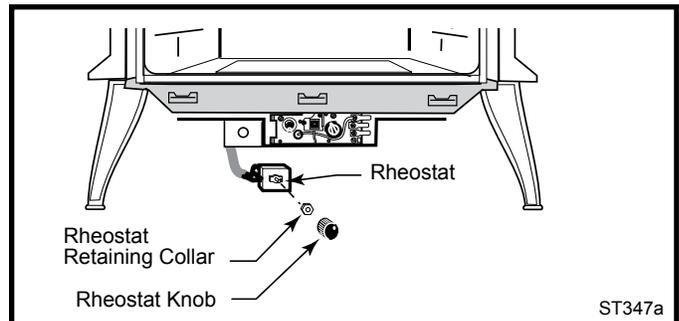

Fig. 18 Attach the fan rheostat.
4. The rheostat control switch attaches to the left side of the valve bracket at the front of the stove. (Fig. 18)